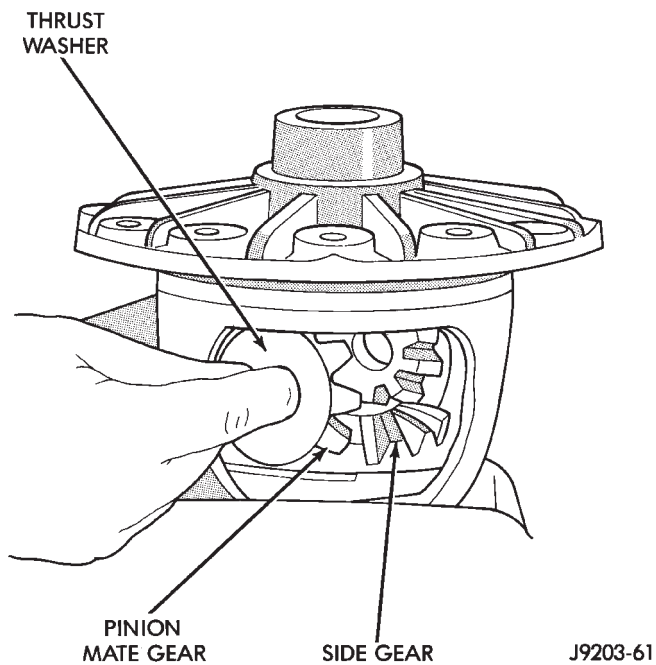

Fig. 31 Pinion Mate Gear Removal
(6) Rotate the differential side gears and remove the pinion mate gears and thrust washers (Fig. 31).
(7) Remove the differential side gears and thrust washers.
(8) Remove the case from the vise.